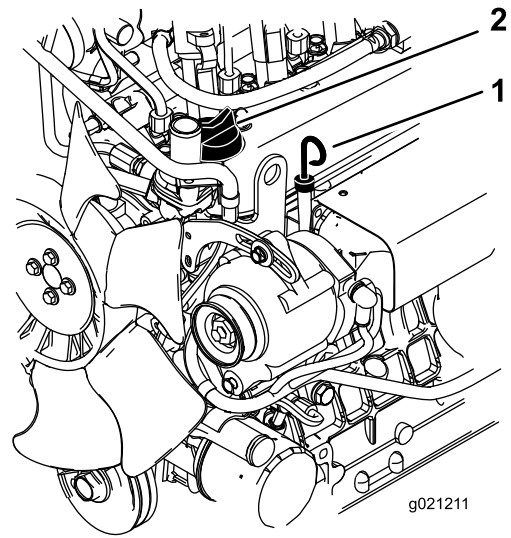

Figure 26
3. Remove the dipstick, wipe it clean, and install it (Figure 26).
5. If the oil level is below the Full mark, remove the fill cap (Figure 26) and add oil until level reaches the Full mark on dipstick. **Do not overfill.**